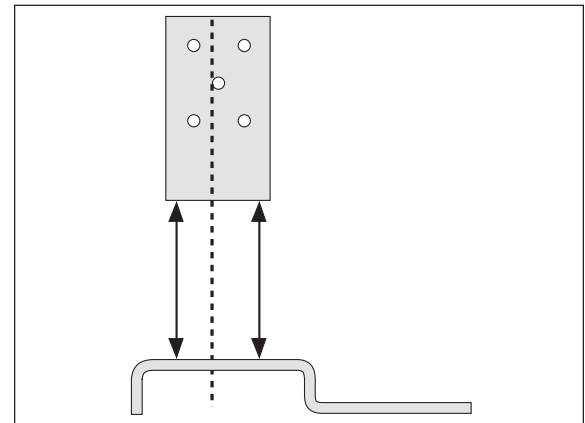
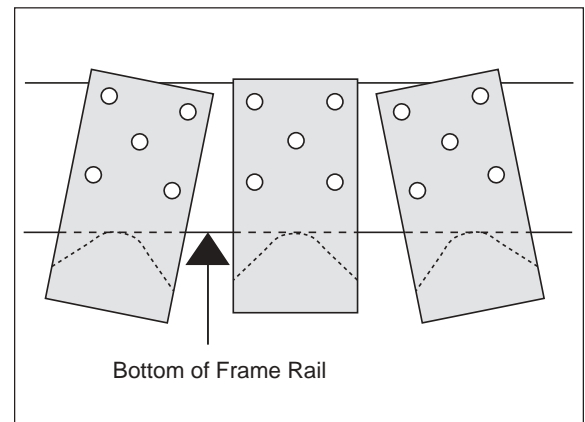
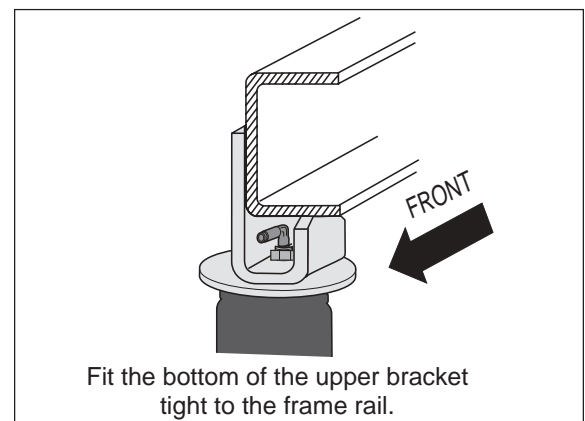

Figure 5
Figure 6
Figure 7
2. To install the upper bracket, the upper bracket must be in line with the lower bracket and on the same angle as the leaf spring. The upper bracket must be parallel and perpendicular to the lower bracket (Figure 5). The upper bracket is designed so that it can be "tilted" for the proper angle (Figure 6). The bottom of the upper bracket must fit tight to the bottom of the frame rail (Figure 7).